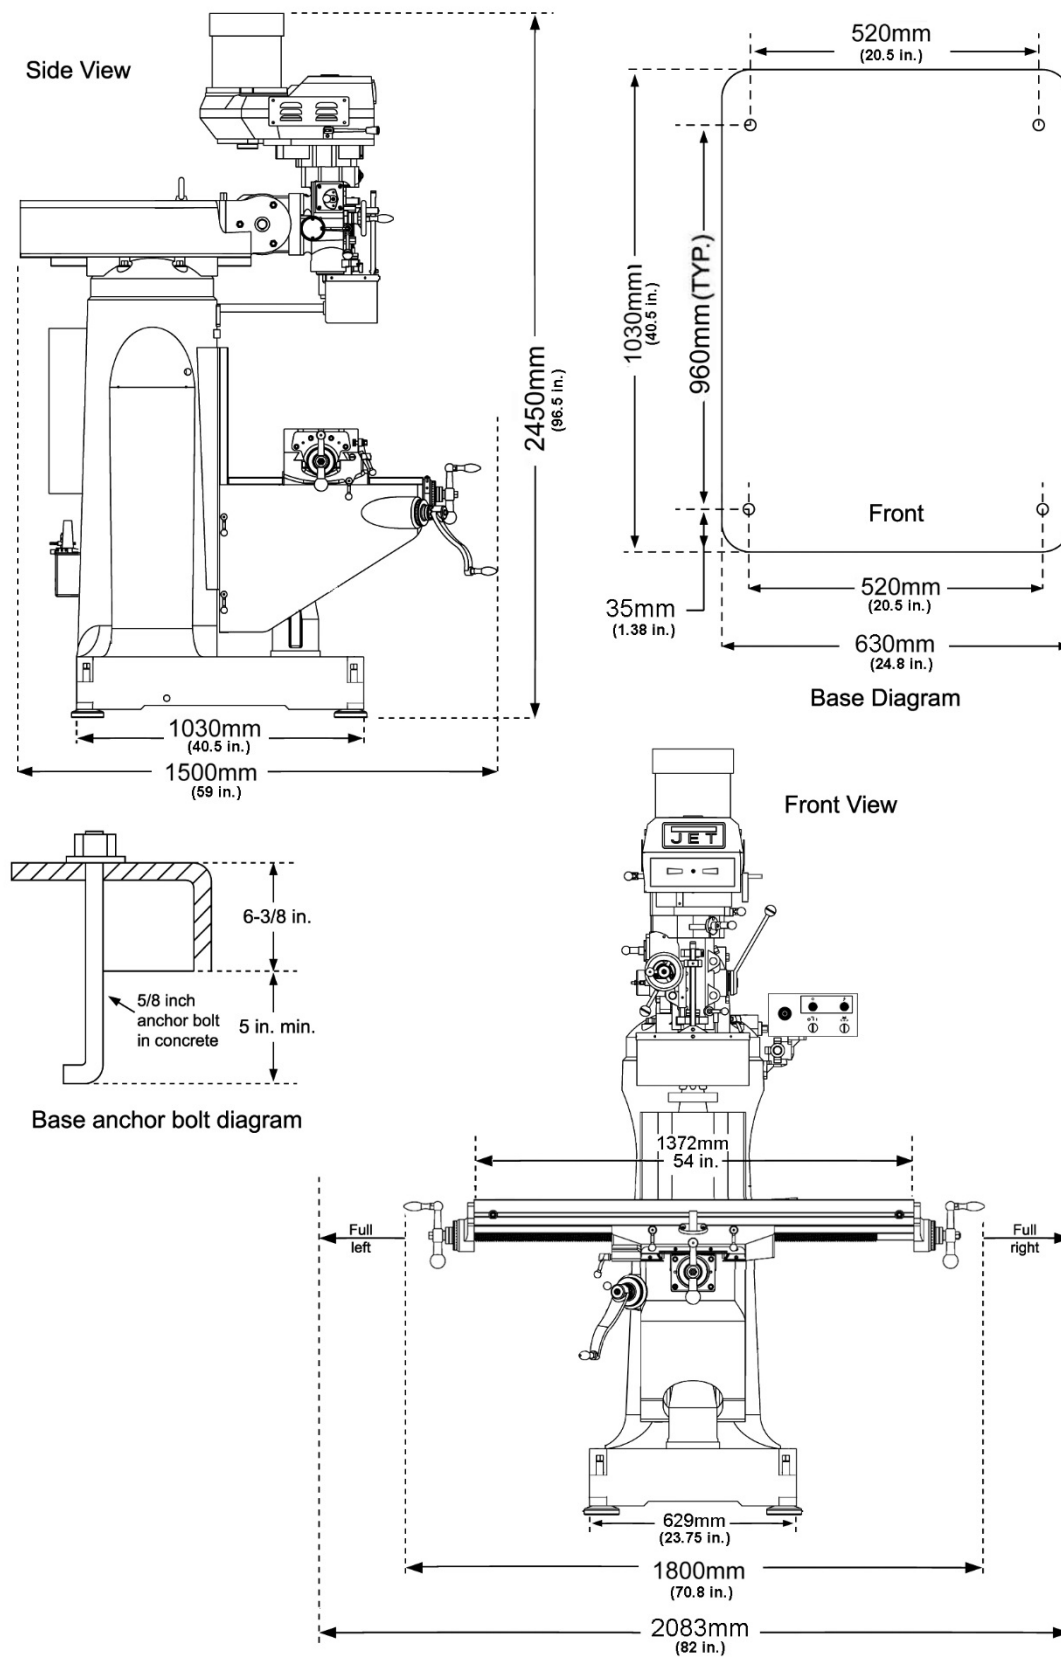

Figure 4-1: Installation Diagram
8. Put machine base over hold-down system where machine will be spotted. Anchor bolts (not provided) of sufficient size and length must be fastened to the floor according to footprint of mill. See Figure 4-1.
NOTE: Figure 4-1 shows maximum dimensions of machines with table, ram, etc., fully extended in all possible directions. When spotting machine, be certain to leave room not only for the machine itself, but also for operator clearance, servicing the machine, and any unusual sizes of workpieces that might extend off the machine's table.